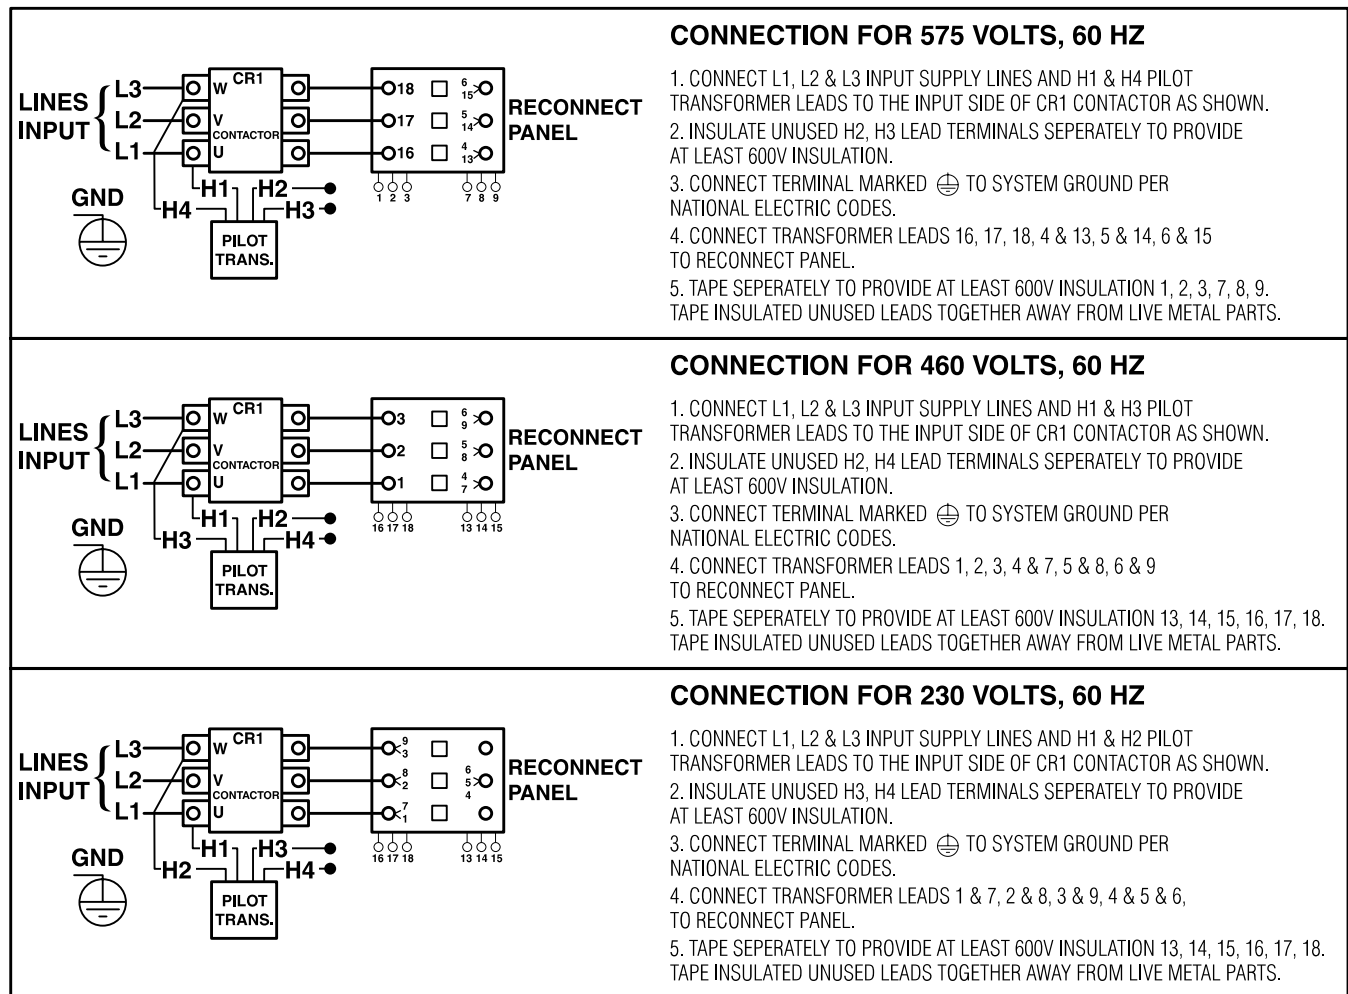

FIGURE A.3-Reconnect Panel Board Positions for 230/460/575 VAC Machines
1. For 230/460/575, see Figure A.3. (M15666)